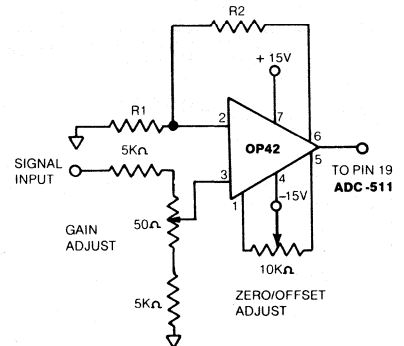

Figure 4. Optional Calibration Circuit
1. Applications unaffected by endpoint errors or those that remove them through software will use the typical connections shown in Figure 2. The optional external circuitry of Figure 4 removes system errors or helps adjust the small initial errors of the ADC-511 to zero. The external adjustment circuit has no affect on the throughput rate. Table 1 shows how to select the input range.
2. Additional input ranges are available by using optional external adjustment circuitry. Refer to Figure 4 and Table 5.
Remove system errors or the small initial errors by adjusting the zero and full-scale adjustment potentiometers of the user-supplied circuit shown in Figure 4. Connect this circuit to the ADC-511's ANALOG INPUT (pin 19). Apply power and other connections as shown in Figure 2.